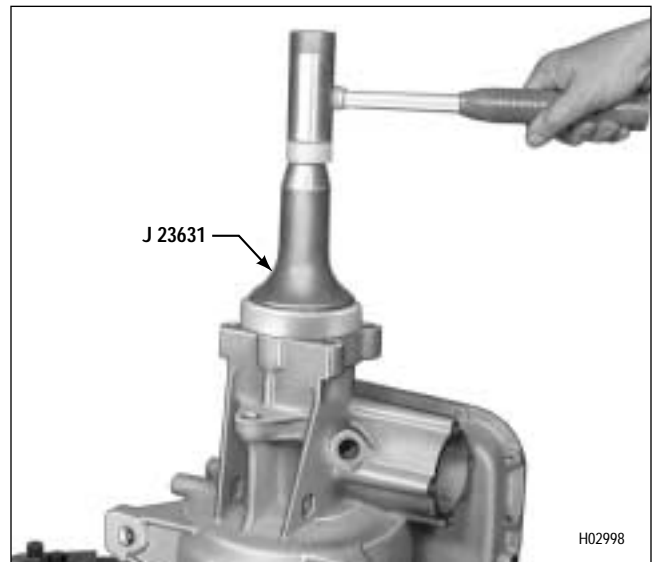

Figure 7–31. Installing Output Shaft Oil Seal
(2) If the anchor bolt is $\frac{3}{8}$ -16, tighten it to 39–46 lb ft (53–62 N·m); if the anchor bolt is $\frac{7}{16}$ -20, tighten it to 67–80 lb ft (91–108 N·m) (Figure 7–32).
(3) For earlier models, install the governor check valve ball into the channel in the transmission housing (Figure 7–32).